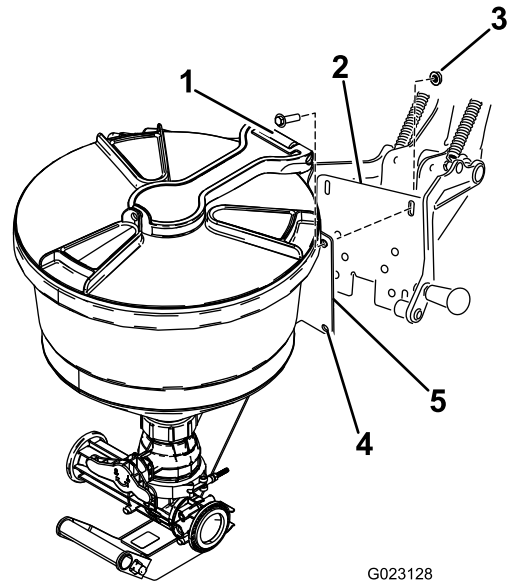

Figure 22
1. Align the holes in the eductor mount plate with the slots in the cradle support frame (Figure 22).